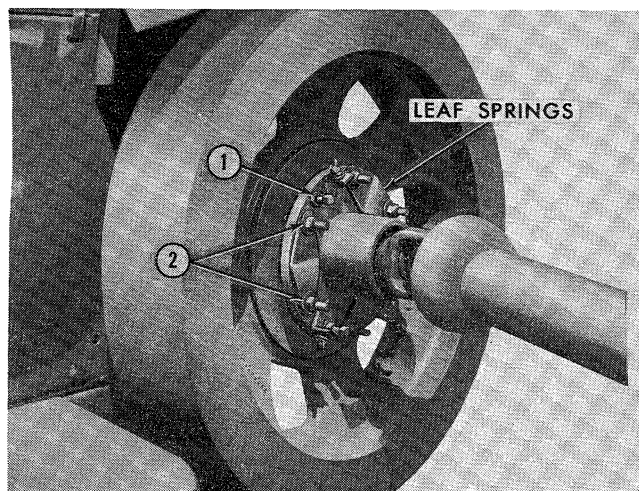

Figure 100
1. Three set screws are provided for separating the clutch discs in storage to prevent them from adhering to the flywheel. Back off the six lock nuts (2), Figure 100, and tighten the screws (1), to separate the discs.